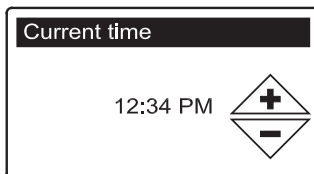

FIG. 28
- 5. CURRENT TIME** Press the DOWN (▼) or UP (▲) buttons to set the current time (See Figure 28). Hold the button down to rapidly advance. Be sure that AM or PM is correct. If the system units were set to metric in Step 3, the clock will be in 24-hour format.